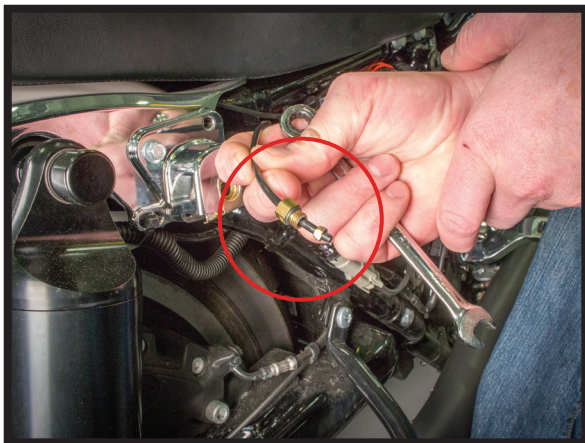

FIGURE 11
9. SLIDE A VOSS AIR FITTING OVER THE 4MM AIR HOSE FOLLOWED BY THE BRASS KEEPER CIRCLED BELOW. BE VERY CAREFUL WHEN SLIDING THE KEEPER OVER THE HOSE. IT IS VERY FRAGILE AND WILL BREAK IF FORCED TOO HARD. THE TAPERED END OF THE KEEPER POINTS TO THE VOSS FITTING. SCREW BOTH OF THE FITTINGS INTO THE MANIFOLD AND ROUTE THE OTHER ENDS OF THE HOSE TOWARD THE UPPER SHOCK MOUNTING HOLES. (FIGURES 11, 12)